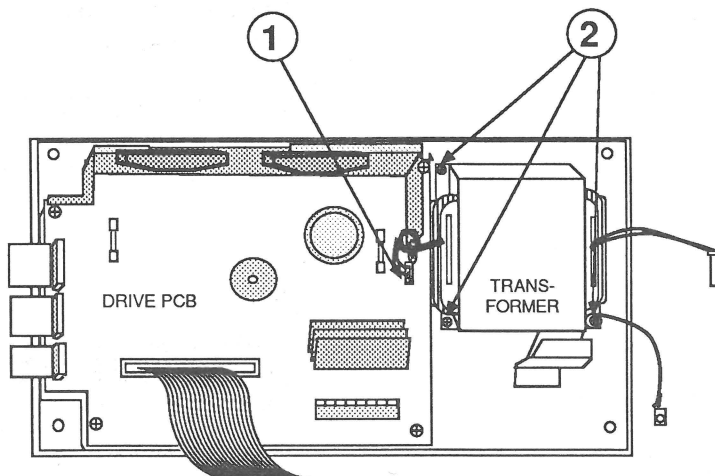

FIGURE 23
2. Disconnect the cable to the drive PCB (Figure 23, #1).
3. Remove the three screws (Figure 23, #2).
2. Replace the three screws (Figure 23, #2).
3. Connect the cable to the drive PCB (Figure 23, #1).